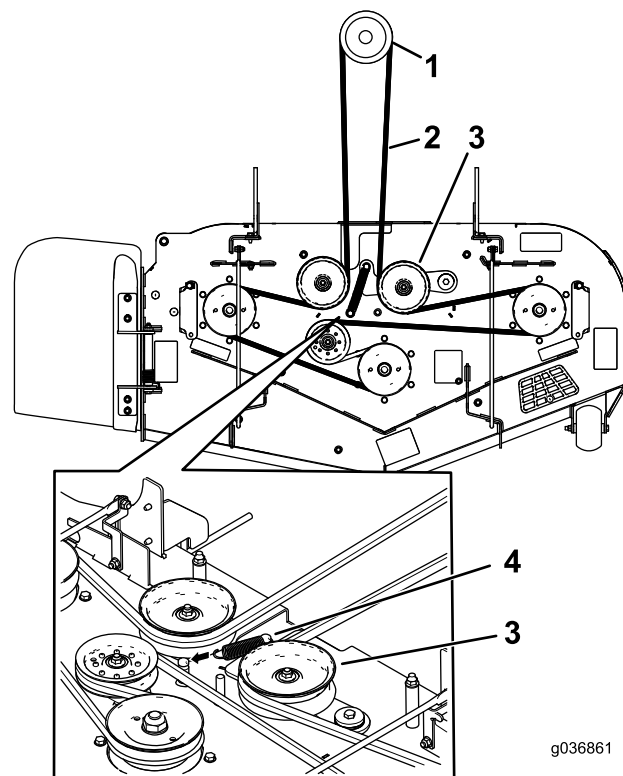

Figure 62
7. Install the new belt around the mower pulleys and the clutch pulley under the engine (Figure 62).
8. Install the idler spring (Figure 62).